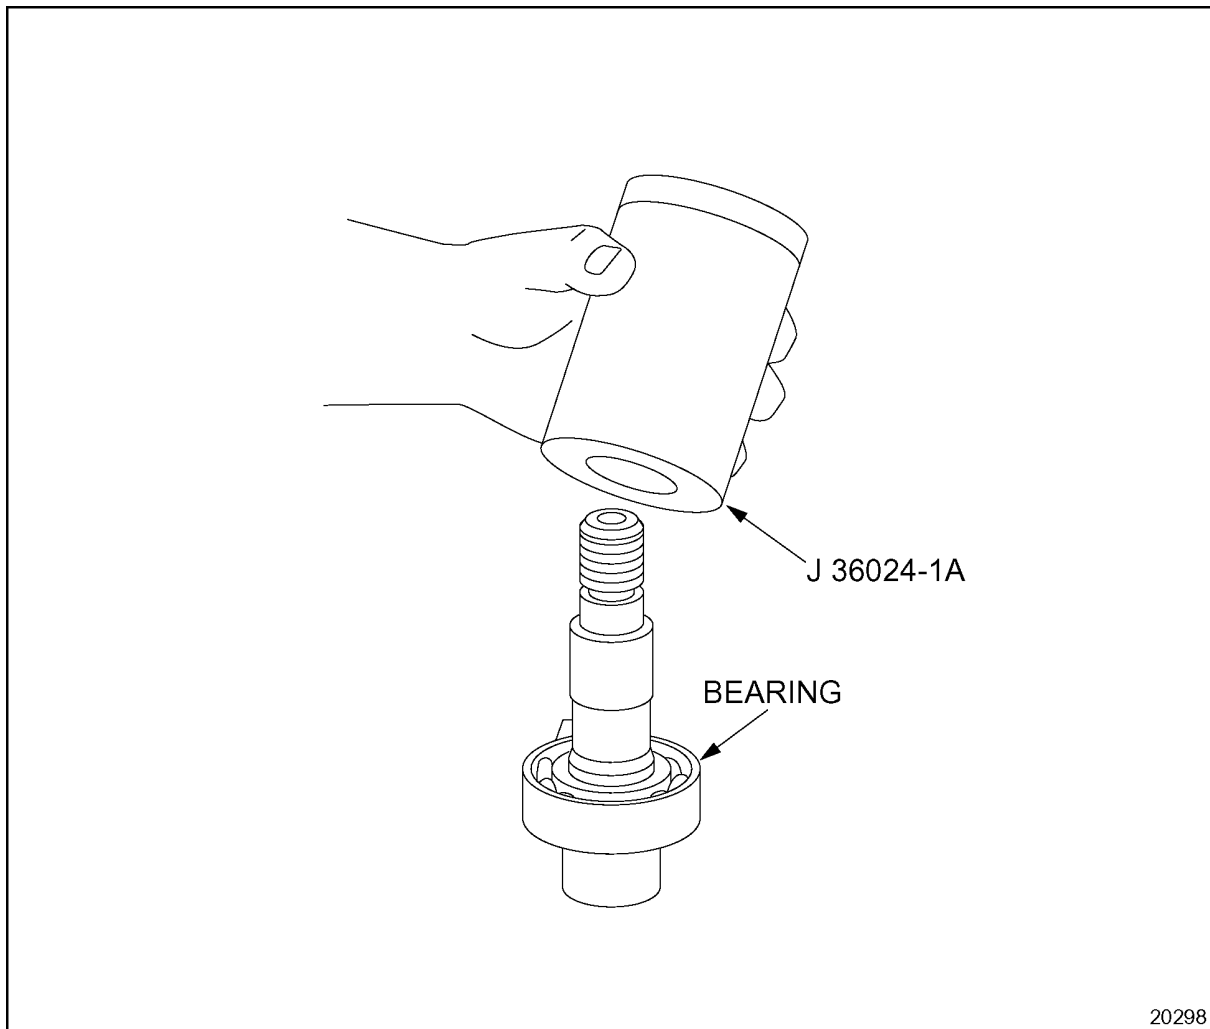

Figure 1-398 Bearing Installation
1. Place a new ball bearing on the accessory driveshaft. Use tool J 36024-1A part of J 36024-C and a press to install the bearing onto the shaft until it bottoms out against the shoulder of the driveshaft. See Figure 1-398.